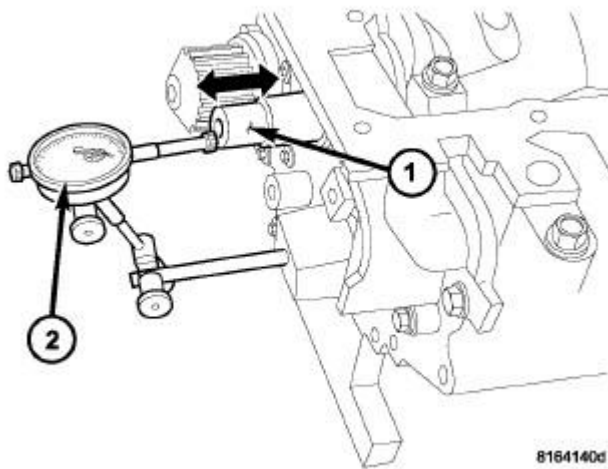

Fig. 147: Checking Crankshaft End Play - Typical
1. Using a dial indicator (2) check crankshaft (1) end play by moving the crankshaft back and forth in the appropriate direction. See **Fig. 147**.